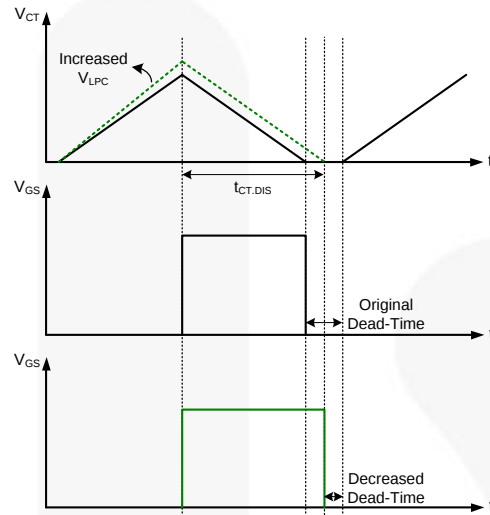

Figure 4. Decrease SR Dead-Time
If SR dead-time is too large, it is recommended to decrease R_1 or increase R_2 . Either way, V_{LPC} is increased and the discharge time of C_T capacitor ($t_{CT.DIS}$) is prolonged to decrease the dead-time, as shown in Figure 4. However, note that (12) must be satisfied when increasing V_{LPC} .